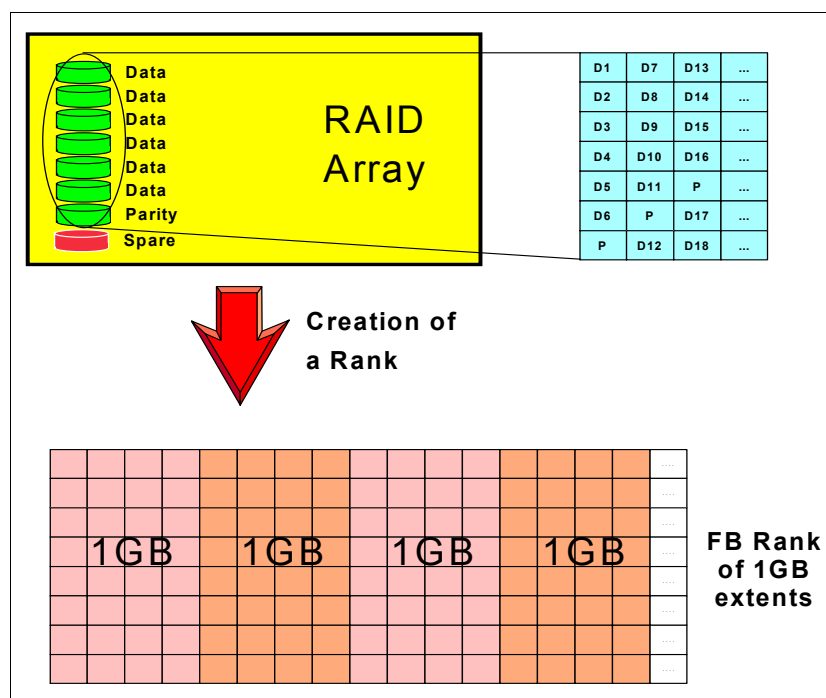
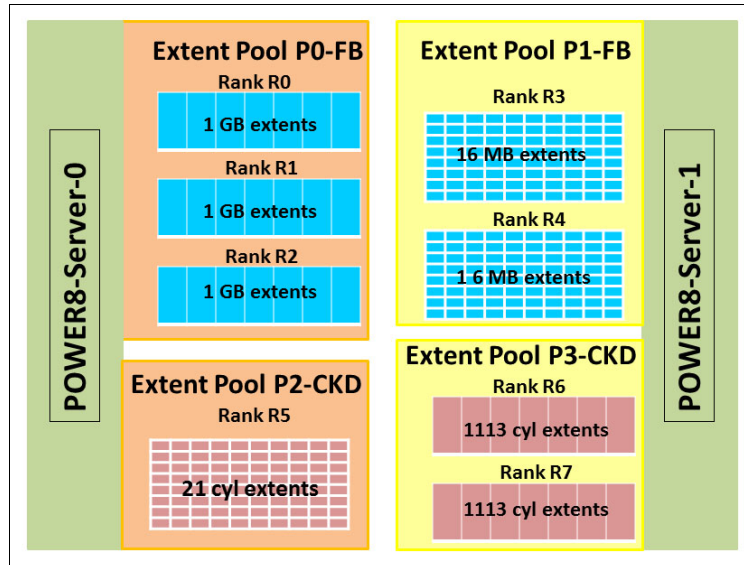

Figure 4-4 Forming an FB rank with 1-GB extents
Figure 4-5 Extent pools
- ▶ The capacity of the array is subdivided into partitions, which are called *extents*. The extent size depends on the *extent type*, which is FB or CKD. The extents are the building blocks of the logical volumes. An extent is striped across all drives of an array, as shown in Figure 4-4 on page 103, and indicated by the small squares in Figure 4-5 on page 105.
Figure 4-4 shows an example of an array that is formatted for FB data with 1-GB extents. The squares in the rank indicate that the extent consists of several blocks from separate drives.
Figure 4-5 shows an example of a mixed environment that features CKD and FB extent pools.